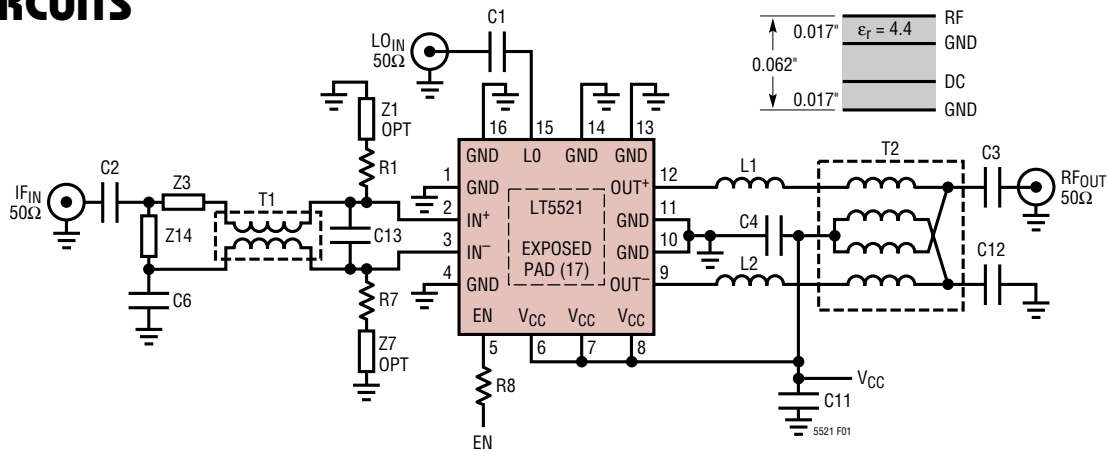

Figure 1. Demonstration Board Schematic
# TYPICAL DC PERFORMANCE CHARACTERISTICS Test circuit shown in Figure 1.
fLO = 1700MHz, fIF = 250MHz, fRF = 1950MHz, PLO = -5dBm, VCC = 5V, EN = 2.9V, TA = 25°C, unless otherwise noted. Test circuit shown in Figure 1 is tuned for 1.95GHz output frequency and VCC = 5V.
**TYPICAL AC PERFORMANCE CHARACTERISTICS**  $f_{LO} = 1700\text{MHz}$ ,  $f_{IF} = 250\text{MHz}$ ,  $f_{RF} = 1950\text{MHz}$ ,  $P_{LO} = -5\text{dBm}$ ,  $V_{CC} = 5\text{V}$ ,  $V_{EN} = 2.9\text{V}$ ,  $T_A = 25^\circ\text{C}$ , unless otherwise noted. Test circuit shown in Figure 1 is tuned for 1.95GHz output frequency and  $V_{CC} = 5\text{V}$ .
**TYPICAL AC PERFORMANCE CHARACTERISTICS**  $f_{LO} = 1001\text{MHz}$ ,  $f_{IF} = 44\text{MHz}$ ,  $f_{RF} = 1045\text{MHz}$ ,  $P_{LO} = -5\text{dBm}$ ,  $V_{CC} = 5\text{V}$ ,  $V_{EN} = 2.9\text{V}$ ,  $T_A = 25^\circ\text{C}$ , unless otherwise noted. Test circuit shown in Figure 1 is tuned for 1.045GHz output frequency.
$f_{LO} = 1.7\text{GHz}$ ,  $f_{IF} = 250\text{MHz}$ ,  $f_{RF} = 1.95\text{GHz}$ ,  $P_{LO} = -5\text{dBm}$ ,  $V_{CC} = 3.3\text{V}$ ,  $V_{EN} = 2.9\text{V}$ ,  $T_A = 25^\circ\text{C}$ , unless otherwise noted. Test circuit shown in Figure 1 is tuned for 1.95GHz output frequency and  $V_{CC} = 3.3\text{V}$ .
**TYPICAL AC PERFORMANCE CHARACTERISTICS**  $f_{LO} = 1.7\text{GHz}$ ,  $f_{IF} = 250\text{MHz}$ ,  $f_{RF} = 1.95\text{GHz}$ ,  $P_{LO} = -5\text{dBm}$ ,  $V_{CC} = 3.3\text{V}$ ,  $V_{EN} = 2.9\text{V}$ ,  $T_A = 25^\circ\text{C}$ , unless otherwise noted. Test circuit shown in Figure 1 is tuned for 1.95GHz output frequency and  $V_{CC} = 3.3\text{V}$ .
For input frequencies above 100MHz, a broadband impedance matching transformer with a 1:1 impedance ratio is recommended. Table 3 provides the component values necessary to match various IF frequencies using the M/A-COM CT0010 transformer (T1, Figure 1).